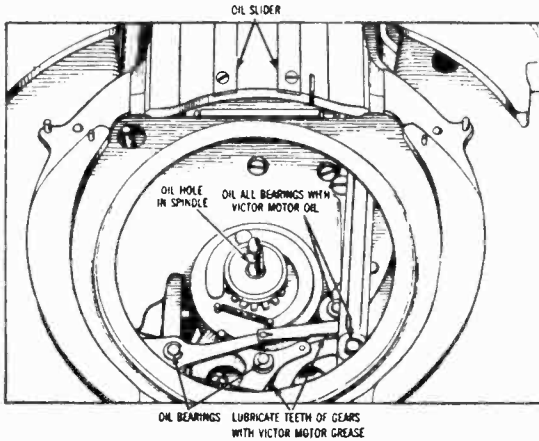

Fig. 20—Oiling Diagram Automatic Mechanism
30. LUBRICATION—A hollow motor spindle with openings at the various bearings permits lubrication of these parts as well as the back governor bearing from the oil hole shown in Fig. 20. The front governor bearing, the governor friction sleeve, and friction leather can be lubricated by inserting a long spout oil can down through the hole in the top of the mechanism below the intermediate gear.